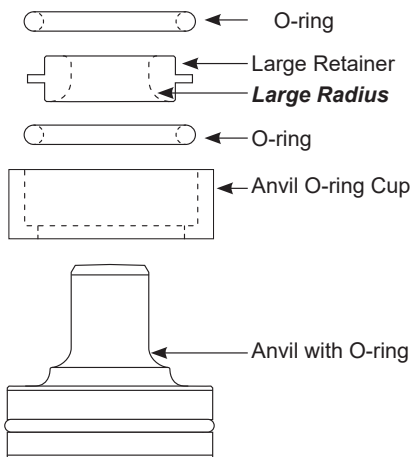

Fig. 16 - Insert o-ring into anvil o-ring cup, then insert large retainer with large radius at bottom towards the anvil, then insert other o-ring.
Lubricate with Rhino® Pro Series Lubricant and assemble the large retainer and the two (2) large retainer o-ring seals in the order shown in Fig. 16 and assemble into the anvil o-ring cup ensuring the large radius on the large retainer is positioned toward the anvil.